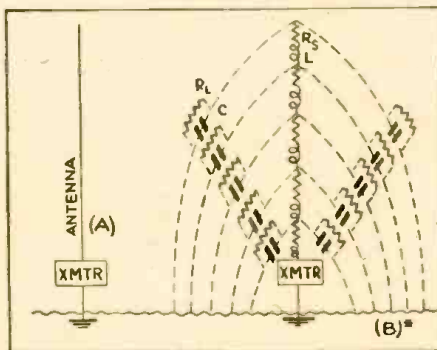

Fig. 1—What an antenna looks like (1-A), and what it is, (1-B).
**T**HE average beginner's conception of a transmitting antenna is usually woefully inadequate. He imagines the simple system shown in Fig. 1-A\* as including all of the essential elements—a transmitter coupled on the one hand to a vertical or horizontal radiator (either directly or by means of a resonant or non-resonant R.F. transmission line) and on the other hand to the Earth.
plete picture of anything. This is no exceptional case, for, where to our eyes a transmitting antenna might indeed look like Fig. 1-A, it has been conclusively demonstrated that electrically it is actually more like Fig. 1-B. Here the antenna is divided into an infinite number of tiny elements ( $R-L$ ) each consisting of the following electrical quantities: